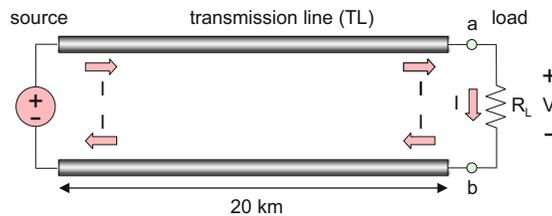

Fig. 2.6. A long transmission power line carrying a steady-state current  $I$  to the load resistance.
All metal wires and cables are ohmic conductors. Electric power absorbed by an ohmic conductor is transformed into heat. This is known as electric power loss. We can apply Eqs. (2.6)–(2.8) and Eq. (2.13) in order to determine the loss of electric power in transmission lines and/or cables. This question has significant practical importance. Figure 2.6 outlines the corresponding *electric circuit*. The electric circuit is a closed path for electric current. Resistance  $R_L$  characterizes the load. Only Ohm’s law is used to analyze this circuit, along with the current continuity. No other circuit laws are necessary. We also consider a voltage source in Fig. 2.6. The voltage sources will be studied next.
**Example 2.3:** An AWG 0 aluminum transmission grid cable schematically shown in Fig. 2.6 has a wire diameter of 8.25 mm and a cross-sectional area of 53.5 mm2. The conductivity of aluminum is  $4.0 \times 10^7$  S/m. The total cable length (two cables must run to a load) is 40 km. The system delivers 1 MW of DC power to the load. Determine the power loss in the cable when *load voltage*  $V$  and *load current*  $I$  are given by:
The same load current  $I$  flows through the load modeled by a resistor  $R_L$  and through the cables in Fig. 2.6. Therefore, power loss in the cables may be found using Eq. (2.8). Knowing the load voltage (or the voltage across the cable) is not necessary. The power loss in the cables is thus given by  $P = RI^2$ . For the three different cases corresponding to the same load power, we obtain